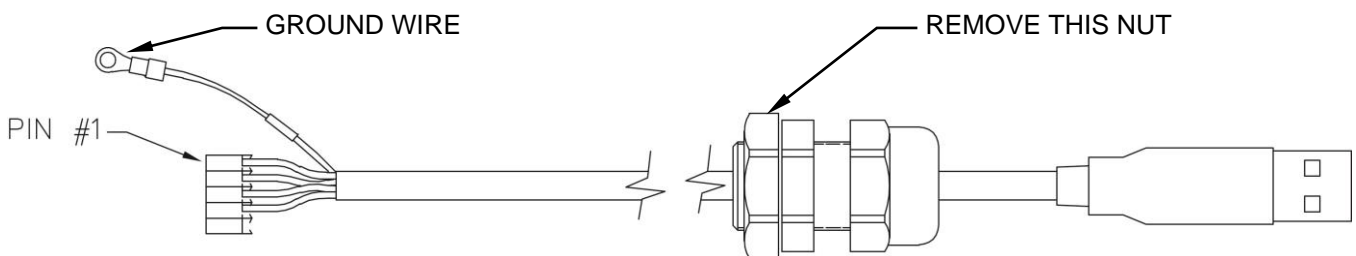

Figure No. 8
3. Loosen the gland connector nut from the 8200-B163-0A cable/gland assembly (see Figure No. 8) and slip off over the 5-pin cable connector and ground wire.
8. To attach the ground wire (see Figure No. 8), remove a 6-32 nut and washer from the corner of the main board.
The AC Input Relay Board(s) are mounted in an external junction box for use with the 225 Indicator. The RB4-ACIN (115 VAC) or RB4-ACINV (230 VAC) contain one board and supports 4 inputs (jumper selectable). The RB8-ACIN (115 VAC) or RB8-ACINV (230 VAC) contain two boards and supports seven inputs that are jumper selectable. The relay board used in the 115 VAC versions is Cardinal p/n 8200-C324-0A. The 230 VAC version uses relay board Cardinal p/n 8200-C324-1A. Connect the devices as shown in Figure No. 8.